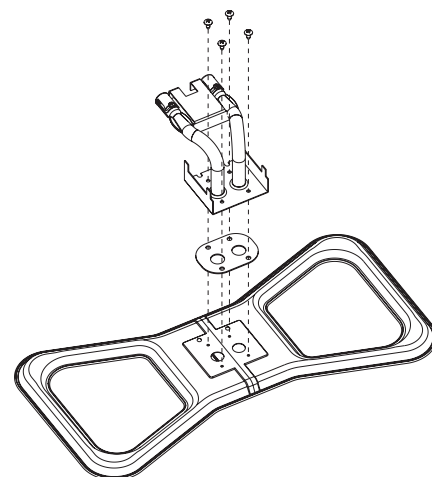

Figure 17
3. Lay the burner face down and remove the four retaining screws from the venturi tube plate and the burner. **See Figure 17.**